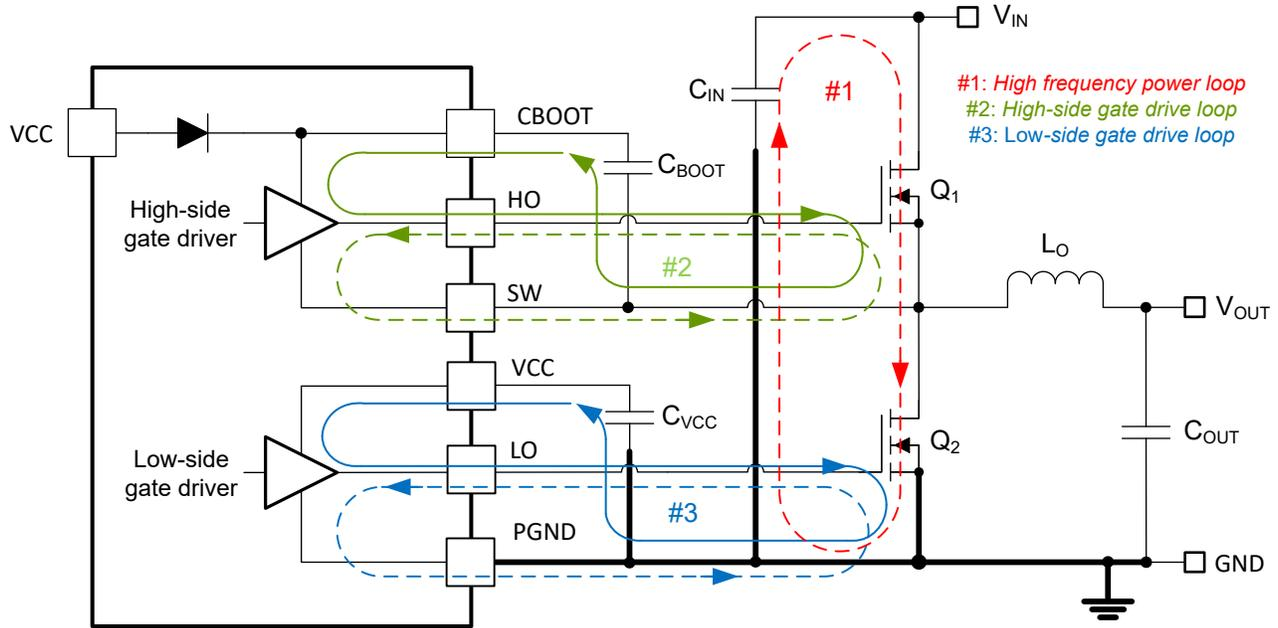

Figure 9-47. DC/DC Regulator Ground System With Power Stage and Gate Drive Circuit Switching Loops
Proper PCB design and layout is important in a high-current, fast-switching circuit (with high current and voltage slew rates) to achieve a robust and reliable design. As expected, certain issues must be considered before designing a PCB layout using the LM5149. The high-frequency power loop of a buck regulator power stage is denoted by loop 1 in the shaded area of Figure 9-47. The topological architecture of a buck regulator means that particularly high di/dt current flows in the components of loop 1, and it becomes mandatory to reduce the parasitic inductance of this loop by minimizing its effective loop area. Also important are the gate drive loops of the high-side and low-side MOSFETs, denoted by 2 and 3, respectively, in Figure 9-47.
- Loop 1: The most important loop area to minimize is the path from the input capacitor or capacitors through the high- and low-side MOSFETs, and back to the capacitor or capacitors through the ground connection. Connect the input capacitor or capacitors negative terminal close to the source of the low-side MOSFET (at ground). Similarly, connect the input capacitor or capacitors positive terminal close to the drain of the high-side MOSFET (at V_{IN}). Refer to loop 1 of Figure 9-47.
- The SW pin connects to the switch node of the power conversion stage and acts as the return path for the high-side gate driver. The parasitic inductance inherent to loop 1 in Figure 9-47 and the output capacitance (C_{OSS}) of both power MOSFETs form a resonant circuit that induces high frequency (greater than 50 MHz) ringing at the SW node. The voltage peak of this ringing, if not controlled, can be significantly higher than the input voltage. Make sure that the peak ringing amplitude does not exceed the absolute maximum rating limit for the SW pin. In many cases, a series resistor and capacitor snubber network connected from the SW node to GND damps the ringing and decreases the peak amplitude. Provide provisions for snubber network components in the PCB layout. If testing reveals that the ringing amplitude at the SW pin is excessive, then include snubber components as needed.
- Loop 2: high-side MOSFET, Q_1 . During the high-side MOSFET turn-on, high current flows from the bootstrap (boot) capacitor through the gate driver and high-side MOSFET, and back to the negative terminal of the boot capacitor through the SW connection. Conversely, to turn off the high-side MOSFET, high current flows from the gate of the high-side MOSFET through the gate driver and SW, and back to the source of the high-side MOSFET through the SW trace. Refer to loop 2 of Figure 9-47.
- Loop 3: low-side MOSFET, Q_2 . During the low-side MOSFET turn-on, high current flows from the VCC decoupling capacitor through the gate driver and low-side MOSFET, and back to the negative terminal of the capacitor through ground. Conversely, to turn off the low-side MOSFET, high current flows from the gate of the low-side MOSFET through the gate driver and GND, and back to the source of the low-side MOSFET through ground. Refer to loop 3 of Figure 9-47.